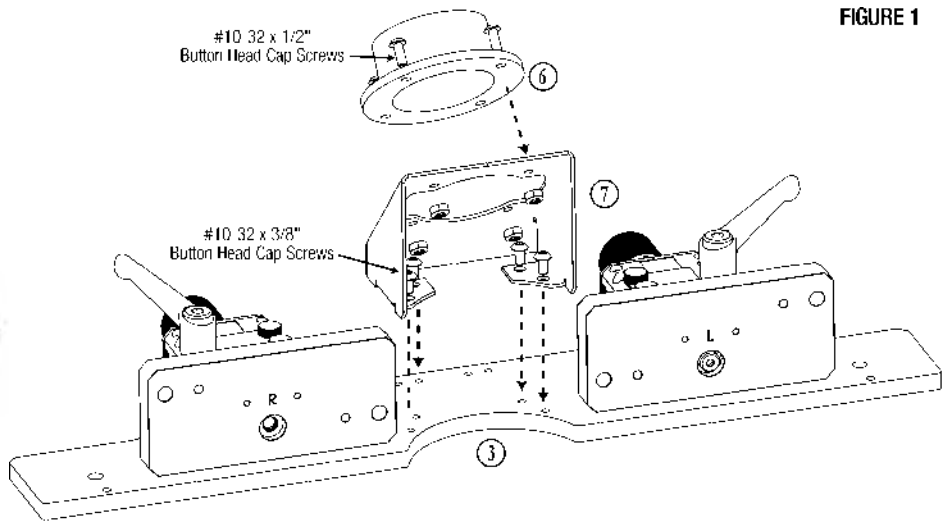

FIGURE 1
- ③ SF-PRO Base
- ⑥ Dust Port
- ⑦ Dust Port Bracket
- #10-32 x 1/2" Button Head Cap Screw (4)
- #10-32 Thin Nylon Lock Nut (4)
- #10-32 x 3/8" Button Head Cap Screw (4)
1. Attach the Dust Port Bracket ⑦ to the SF-PRO Base ③ using the #10-32 x 3/8" Button Head Screws and 1/8" hex key. Ensure that the front edges of the Dust Port Bracket ⑦ are slightly back from the front straight edge of the SF-PRO Base ③ (the Dust Port Bracket can still be adjusted later through the Dust Port using a ball end screwdriver type hex key). **FIGURE 1**
2. Attach the Dust Port ⑥ to the Dust Port Bracket ⑦ using the #10-32 x 1/2" Button Head Screws and the #10-32 Thin Nylon Lock Nuts with the 1/8" Hex Key and a 3/8" open end wrench.